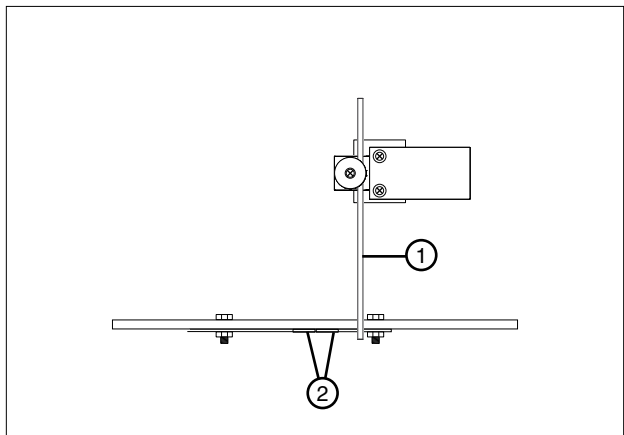

Figure 48-2 1. Stop-in-slot switch rod
5. Position Stop-In-Slot finger under half ring as desired. Secure Stop-In-Slot finger with two 1/4 in x 1 in cap screws and lock nuts. See figure 48-2.
- Set the switch rod low enough to contact the Stop-In-Slot finger and engage switch. See figure 48-2.
- Loosen the Stop-In-Slot finger mounting hardware to make adjustments to the Stop-In-Slot location. See figure 48-2.